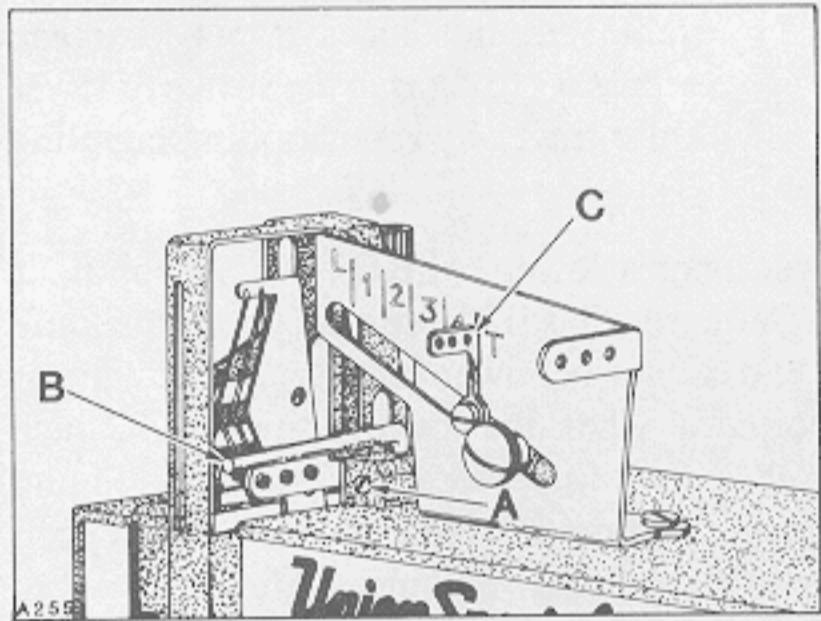

Fig.26
adjustable eyelet (C, Fig. 26) set at "T". Loosen screww (A) and position strike-off (B) as specified and retighten screw. Thread tension on needle thread should be just enough to pull up uniform stitches. Thread tension applied on looper thread should be just enough to steady thread.